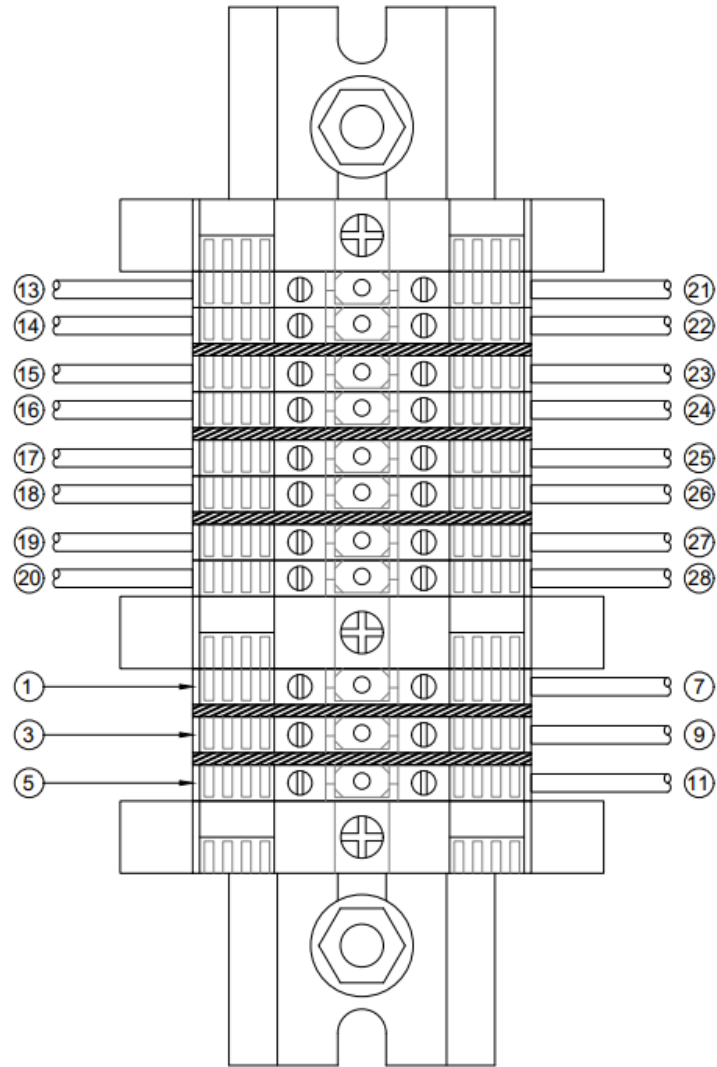

Figure 7b – Diagram –
1.10.4.2. Terminal Strip and Control Panel. See Figure 7a and Figure 7b for information on connection to the terminal strip in the upper enclosure. Use Section 5.1 – Kidde manual 06-237491-001 to guide the installation of connections to the control panel. Terminals for 110VAC power accept qty. (1) 10 ga. max. conductor. NOTE: All conductors used for field wiring must comply with NFPA 70 – National Electrical Code, and control panel manufacturer's instructions (see Section 5). See Section 5 for information on power-limited conductor runs.
Legend for Figure 7b